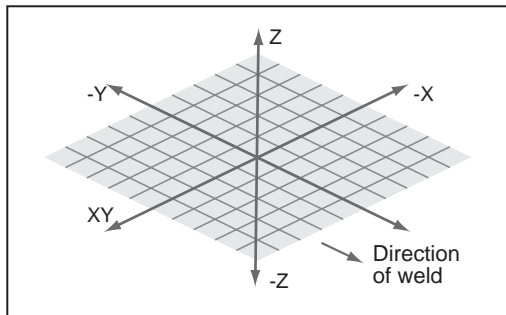

FIG. 11
8.6 DIRECTION OF WELD – FIG. 11